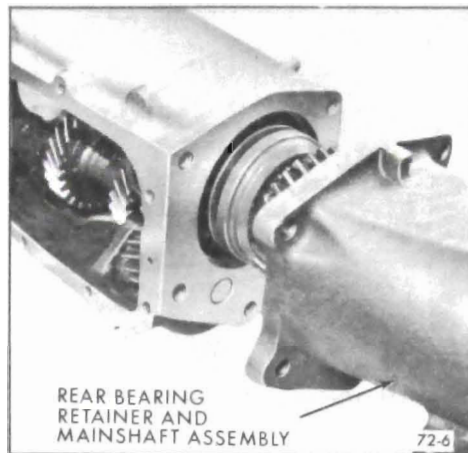

Figure 72-6-Removing Mainshaft Assembly
8. From rear of case, remove rear bearing retainer and mainshaft assembly. See Figure 72-6.